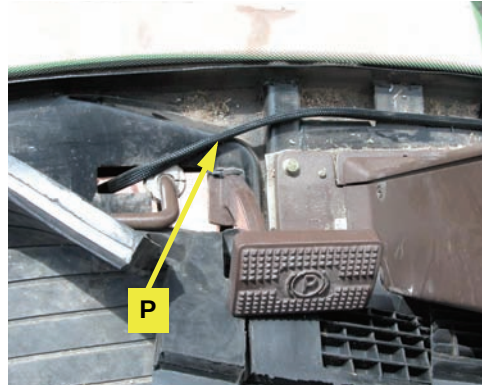

Figure 7b: Valve cable routed through the cab access hole
- b. Route the cable into the cab through the removable plate in the floor near the parking brake pedal (Figure 7b). Secure the cable with tie straps **Q** as necessary.